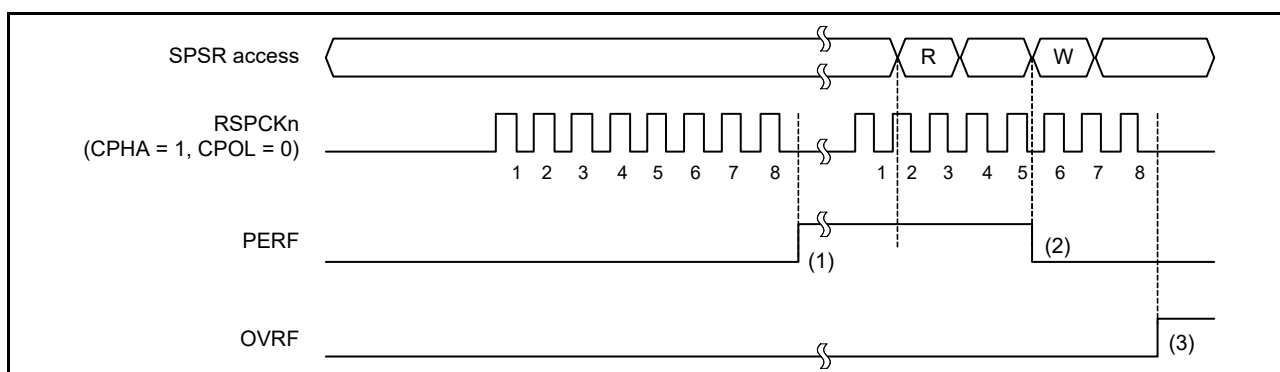

Figure 31.31 Operation example of the PERF flag
Figure 31.31 shows an example operation of the OVRF and PERF flags. The SPSR access shown in Figure 31.31 indicates the condition of access to the SPSR register, where W denotes a write cycle, and R a read cycle. In the example, full-duplex synchronous serial communication is performed while the SPCR.TXMD bit is 0 and the SPCR2.SPPE bit is 1. The SPI performs an 8-bit serial transfer in which SPCMDm.CPHA bit is 1 and the SPCMDm.CPOL bit is 0. The numbers given for RSPCKn in the waveform represent the number of RSPCK cycles, such as the number of transferred bits.
The operation of the flags at timings (1) to (3) in Figure 31.31 is as follows: